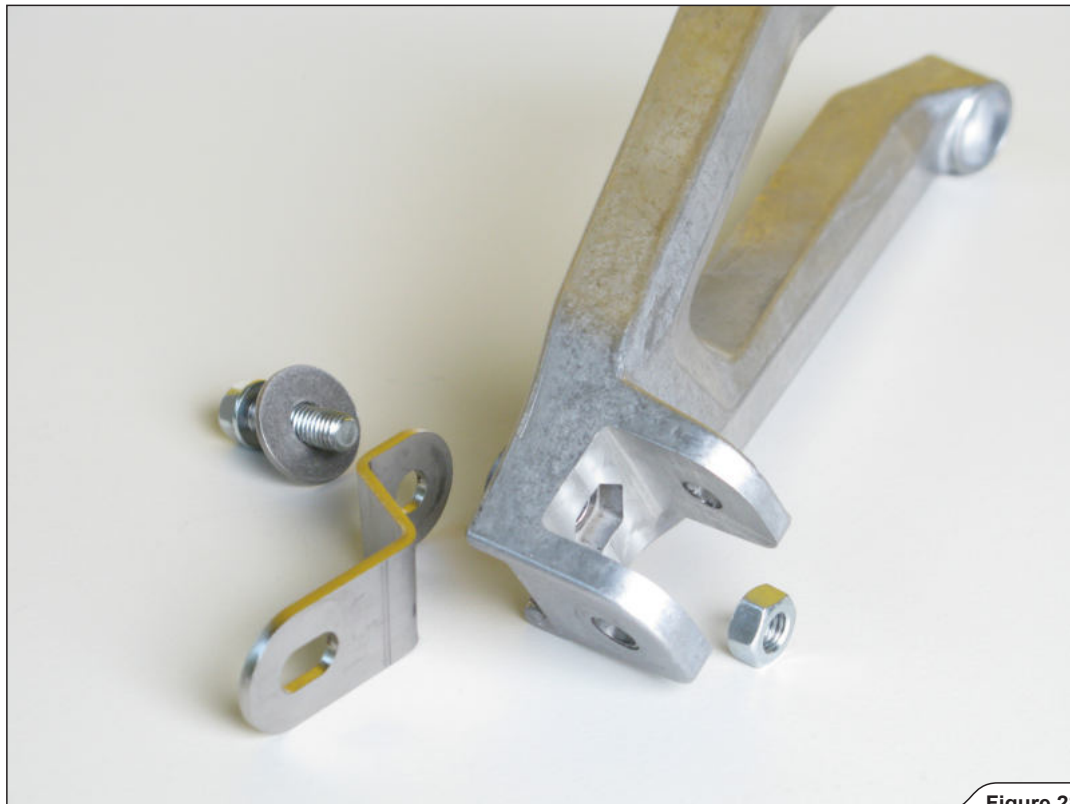

Figure 28
12. Attach the additional Akrapovič stainless steel bracket to the stock right passenger footrest bracket, using Akrapovič nut, bolt and washer (Figure 28, 29).